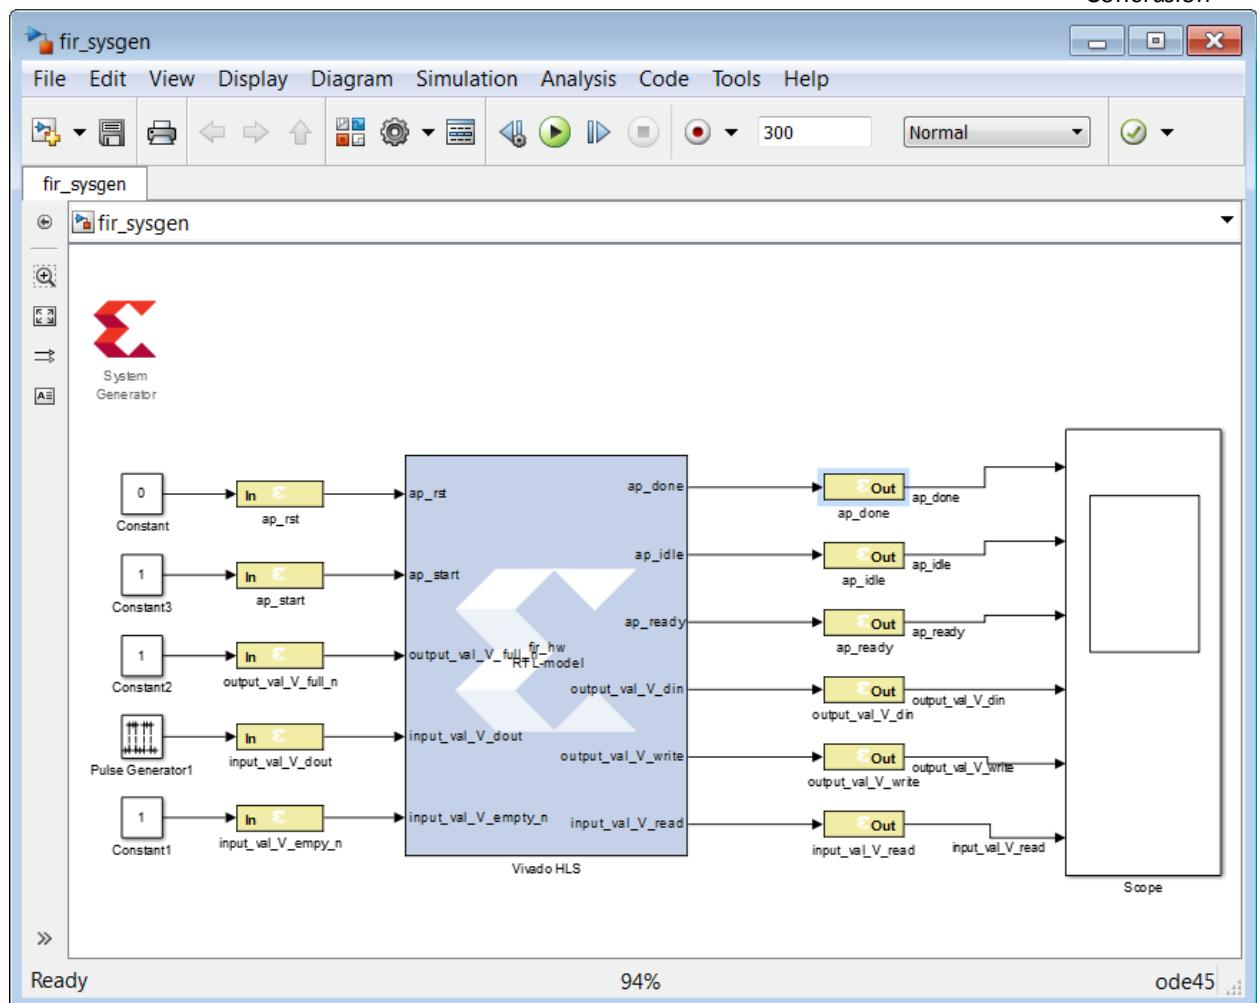

Figure 257 Design with All Connections
11. Ensure the simulation stop time says 300 (Figure 257).